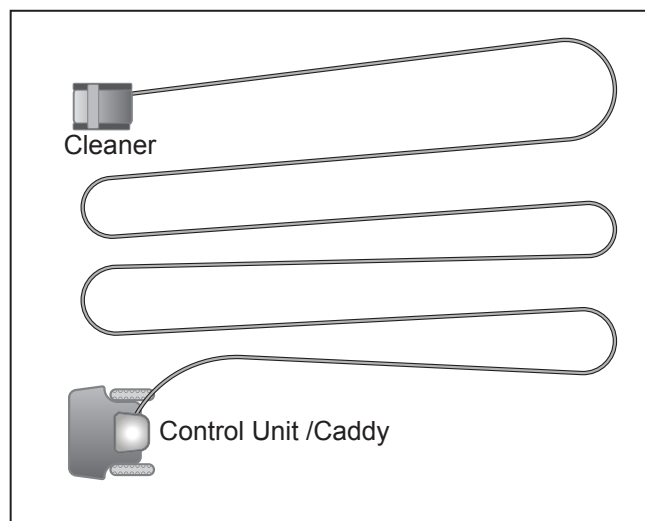

Figure 22. Untangle the Floating cable
2. Remove the cleaner from the pool and untangle all kinks and coils in the floating cable starting at the cleaner head (see Figure 22). Lay cable in sunlight to loosen tangling memory in the cable.